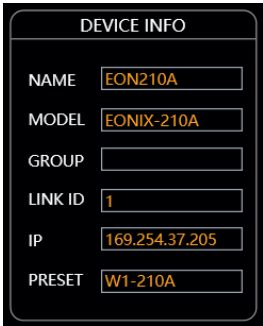

Figure 1.4
① Clicking **Call** will make the connected device’s display panel and status lights flash, allowing quick identification of the target device within a “stack of amplifier units”.
② Power LED
③ Clicking the button within the frame allows quick switching between two routing modes: Bridge and Matrix.
① As shown in figure 1.4, the device name, group, and IP address can be modified. To make changes, go to Device-Device Management in the top-left corner of the initial interface and adjust according to actual requirements.